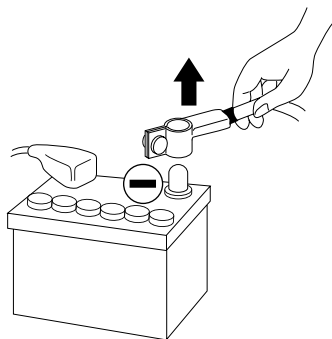

fig. 1
- **Before beginning installation, disconnect the negative terminal of the battery to avoid any risk of injury, fire or material damage. (fig. 1)**
- 2 - Disconnect the negative terminal of the battery before beginning the installation. *(fig. 1)*